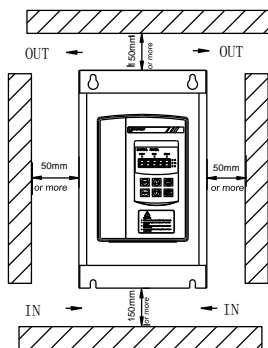
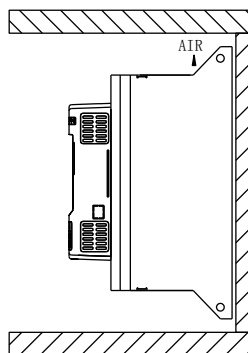
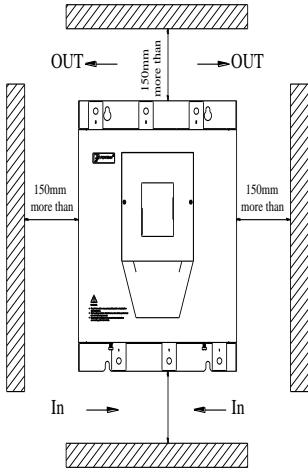

Figure 3.1
Figure 3.2
Figure 3.3
■The installation direction and distance: In order to ensure that the soft starter in use with good ventilation and heat dissipation conditions, the soft starter should be installed vertically, and around the equipment left enough space for heat dissipation, as shown in Figure 3.1, Figure 3.2, Figure 3.3, Figure 3.4the graph to allow the minimum distance.